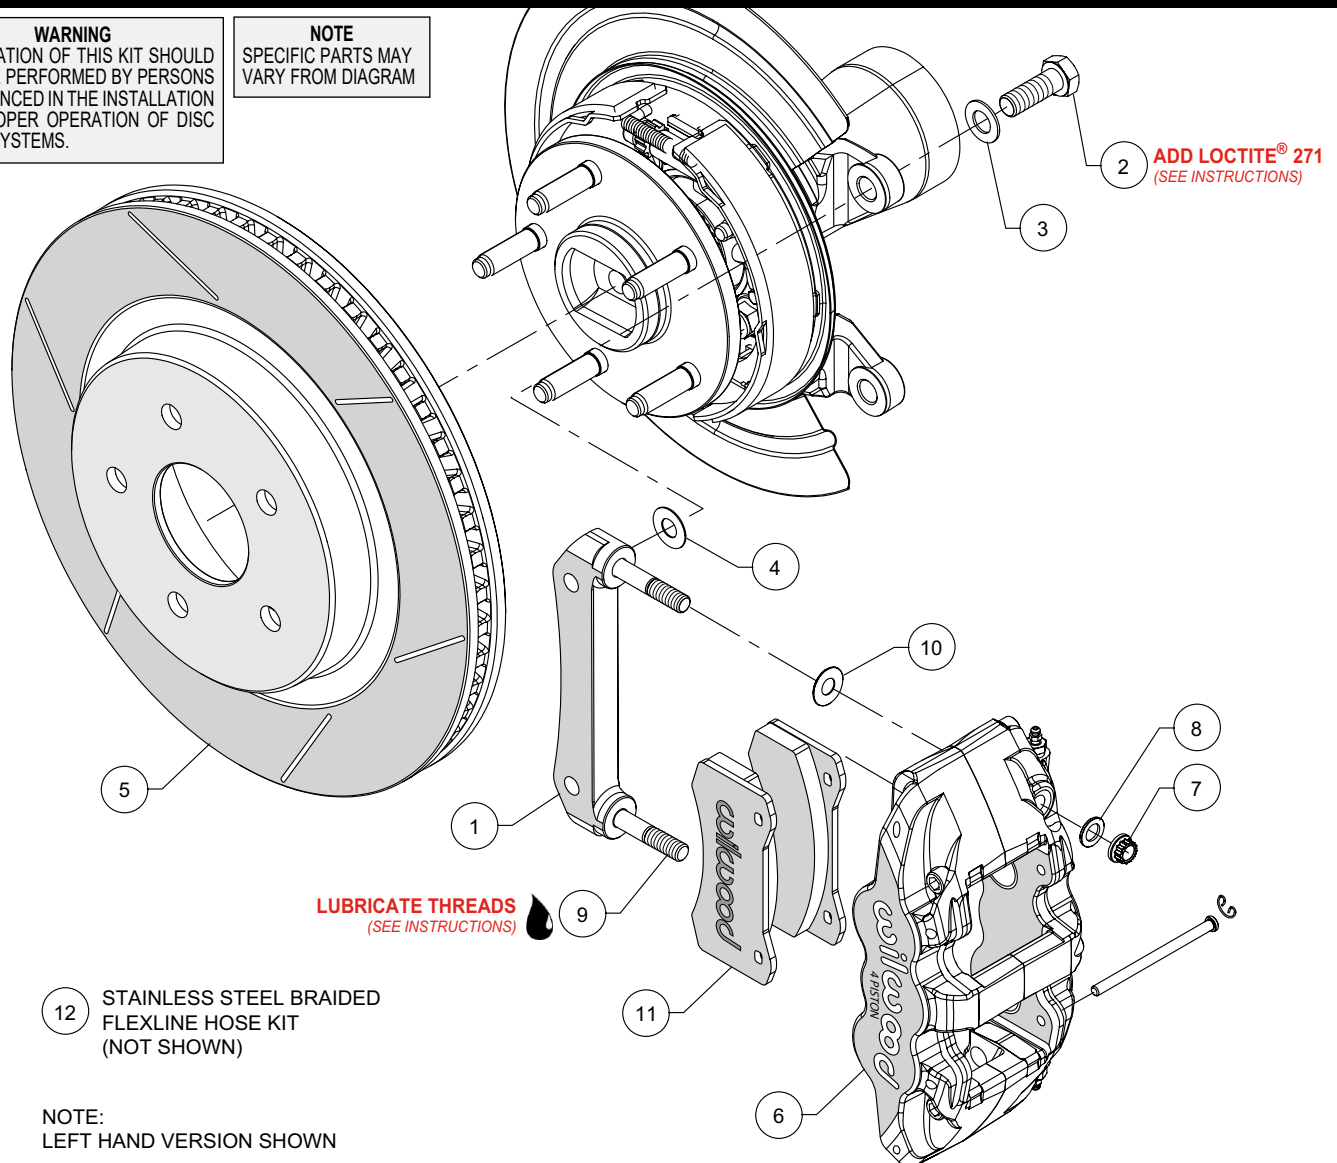

Figure 1. Typical Installation Configuration
NOTE: Numbers in parenthesis refer to the parts list and Figure 1 on the preceding pages.
- The caliper mount bracket (1) should initially be installed with clean, dry threads on the mounting bolts. Orient the bracket as shown in Figure 1 and Photo 1, and install using bolts (2) and washers (3). Initially place one .029" thick shim (4) on each bolt between the bracket and upright, Figure 1. Temporarily tighten the mounting bolts. **NOTE:** The bracket must fit squarely against the mount bosses on the upright. Inspect for interference from casting irregularities, machining ridges, burrs, etc. Later, after the caliper alignment has been checked, the mount bolts will be secured using red Loctite® 271.
- Lubricate the caliper mounting studs (9) with lightweight oil. Initially place one .030" thick shim (10) on each stud as shown in Figure 1 and Photo 3. Mount the caliper (6) onto the bracket (1) using lock nuts (7) and washers (8), Figure 1. Temporarily tighten the lock nuts and view the rotor through the top opening of the caliper. The rotor should be centered in the caliper, Photo 4. If not, adjust by adding or subtracting shims (4) between the bracket (1) and the upright. Always use the same amount of shims on each of the two mounting bolts. Once the caliper alignment is correct, remove the bracket mounting bolts (2) one at a time, apply red Loctite® 271 to the threads, and torque to 77 ft-lb.
- Remove the caliper (6), then remove the two pad retaining pins from the caliper by carefully popping out the pin retaining clips and sliding out the pins. Insert the brake pads (11) into the caliper from the bottom, Figure 1 and Photo 5. With the friction material facing the rotor, secure the brake pads in place with the pad retaining pins and clips, Photo 6. Reinstall the caliper onto the caliper mounting bracket and temporarily tighten the lock nuts. Check that the top of the brake pad is flush with the outside diameter of the rotor, Photo 7. If not, adjust by adding or subtracting shims (10) between the caliper and the bracket. After the caliper pad height is set, torque the caliper lock nuts (7) to 47 ft-lb.